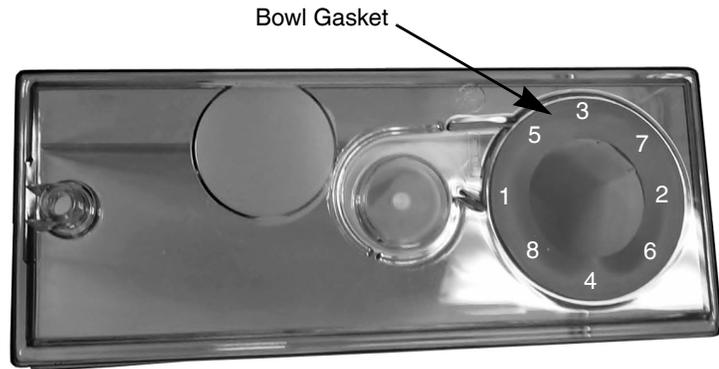

Figure 1.
3. Press the new gasket down firmly on the bottom of the bowl, using the points indicated by the numbers shown in Figure 1. Follow the sequence of numbers in Figure 1 when installing the gasket.